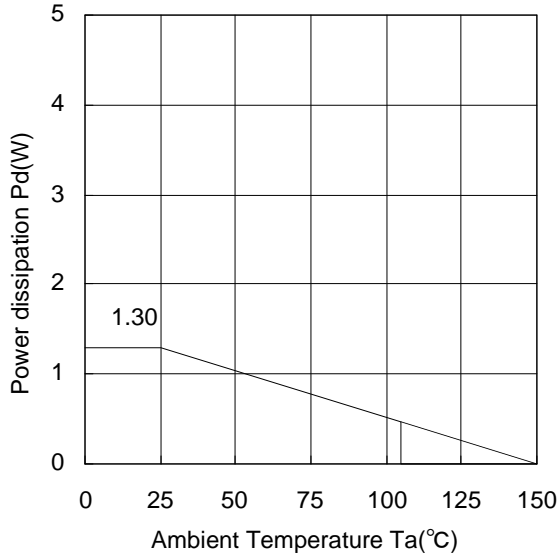
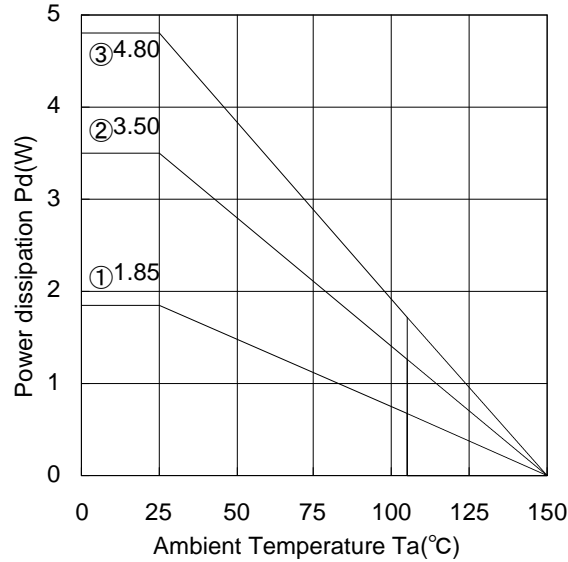
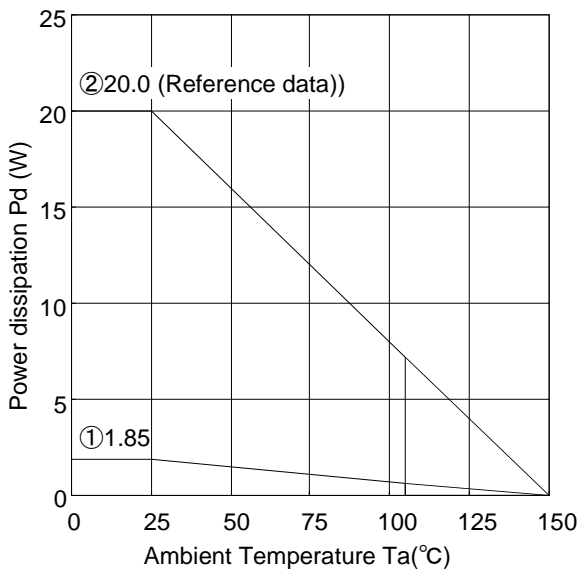

Figure 19.
Figure 20.
Figure 21.
When operating at temperature more than $T_a=25^{\circ}\text{C}$, please refer to the power dissipation characteristic curve shown in Figure 19 to Figure 21.
Figure 19 to Figure 21 show the acceptable power dissipation characteristic curves of TO252-5 package and TO220CP-V5 package. Even when the ambient temperature (T_a) is at normal temperature (25°C), the chip junction temperature (T_j) may be quite high so please operate the IC at temperatures less than the acceptable power dissipation.
The calculation method for power consumption $P_c(W)$ is as follows : (Figure 20③ and Figure 21)
$$I_O \leq \frac{2.496 - 10 \times I_b}{5} \quad \left[\begin{array}{l} \text{Figure 20③: } \theta_{ja}=26.0^{\circ}\text{C/W} \rightarrow -38.4\text{mW}/^{\circ}\text{C} \\ 25^{\circ}\text{C}=4.80\text{W} \rightarrow 85^{\circ}\text{C}=2.496\text{W} \end{array} \right]$$
$$I_O \leq \frac{10.4 - 25 \times I_b}{20} \quad \left[\begin{array}{l} \text{Figure 21 (Aluminium heat dissipation board) } \theta_{ja}=6.3^{\circ}\text{C/W} \rightarrow -160\text{mW}/^{\circ}\text{C} \\ 25^{\circ}\text{C}=20\text{W} \rightarrow 85^{\circ}\text{C}=10.4\text{W} \end{array} \right]$$